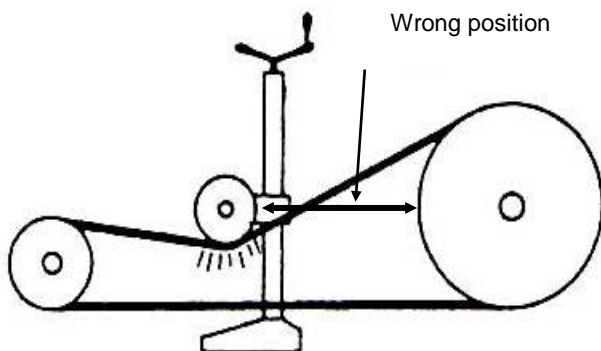

FIG 11a.
- B. Idlers that are installed to run on the outside of the V-belt (see Fig 11a) must have a flat surface so as not to damage the V-belt.
- D. The idler must be fitted as **close as possible** to the **biggest pulley**. Compare figures 11a and 11b.